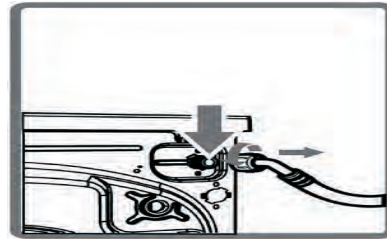

Fig 7
**1:** Connect the water inlet hose, the angled connection attaches to the water inlet on the back of the washer-dryer. (Fig 7)